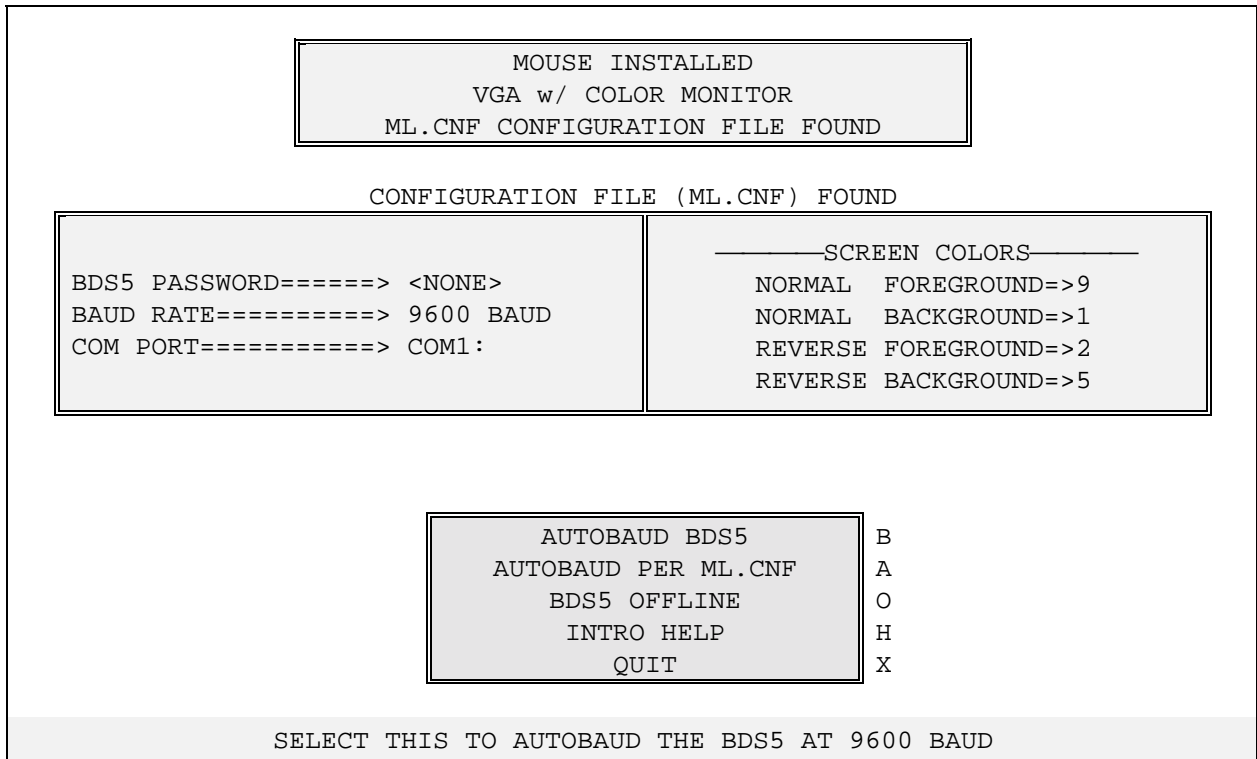

Figure 2.1. BDS5 Introduction Screen
- When Motion Link responds the BDS5 should respond on your PC monitor with the message in Figure 2.1 (or a similar one).